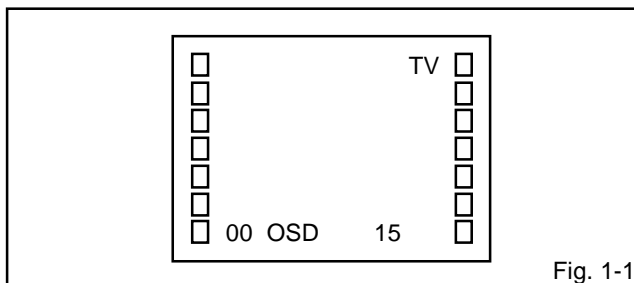

Fig. 1-1
1. In the condition of NO indication on the screen. Press the VOL. DOWN button on the set and the Channel button (**9**) on the remote control for more than 1 second to appear the adjustment mode on the screen as shown in **Fig. 1-1**.
4. Activate the adjustment mode display of **Fig. 1-1** and press the channel button (**02**) on the remote control to select "RF.AGC".
3. Activate the adjustment mode display of **Fig. 1-1** and press the channel button (**01**) on the remote control to select "CUT OFF".
4. Activate the adjustment mode display of **Fig. 1-1** and press the channel button (**10**) on the remote control to select "R.BIAS".